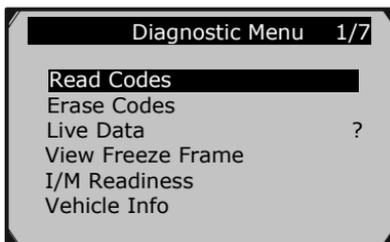

Figure 5.4
9. View a summary of the **System Status**. Wait a few seconds or press any key for **Diagnostic Menu (See Figure 5.4)** to come up.
1. Use the **Up/Down** scroll buttons to select **Erase Codes** from **Diagnostics Menu** (See **Figure 5.4**) and press the **OK** button.
1. To view live data, use the **Up/Down** scroll button to select **Live Data** from the **Diagnostic Menu** (See **Figure 5.4**) and press the **OK** button.